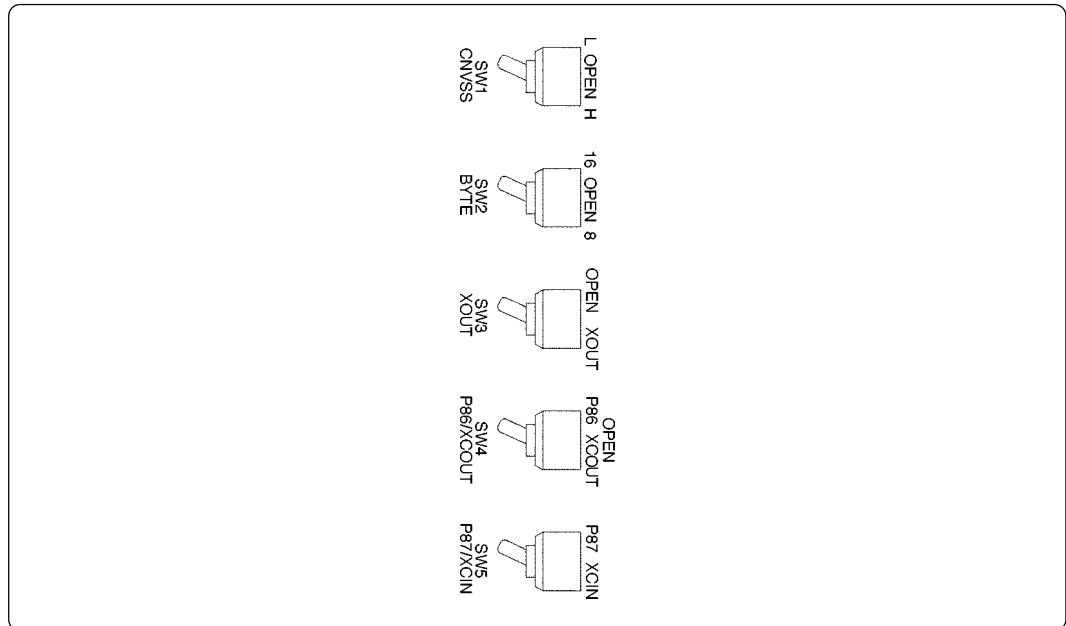

Figure 4.3 Switch settings when running self-checks (factory-settings)
- (1) Set the switches in the emulation pod same as the factory setting (see Figure 4.3).
- (2) When the target system is connected, disconnect the target system.
- (3) Within 2 seconds of activating power to the emulator, press the RESET switch on the emulator front panel to switch the emulator to the maintenance mode.
- (4) Check the "SAFE" LED starts blinking and then press the RESET switch again.
- (5) The self-checks will start. If the normal result is displayed in about 2 minutes, self-checks terminated normally.
- Check if the switches in this product are set same as the factory-settings (Figure 4.3).